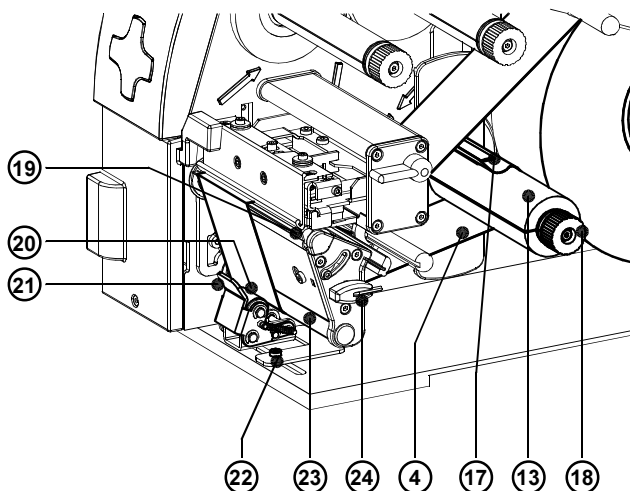

Fig. 7g Loading Labels from Roll in Peel-off mode
13. For peel-off mode swing the locking system (21) away from the rewind assist roller (23).
14. Then, slide the media strip (4) around the dispense plate (19) to the internal rewind hub (13) as shown in figure 7g. Slide the strip under the clamps (17) that are located on the internal rewind hub (13). Hold the internal rewind hub (13) and rotate the nut (18) counter-clockwise until it is tight. The media strip will now be fastened to the internal rewind hub (13). Rotate the internal rewind hub (13) counter-clockwise to tighten the media strip.
15. Loosen the screw (22) using the Allen key (24). Align the locking system (21) including the pinch roller (20) by sliding it sideways. The alignment is correct if the pinch roller (20) is placed in the middle of the label strip.
16. Swing the locking system (21) to the rewind axle (23) and tighten the screw (22).